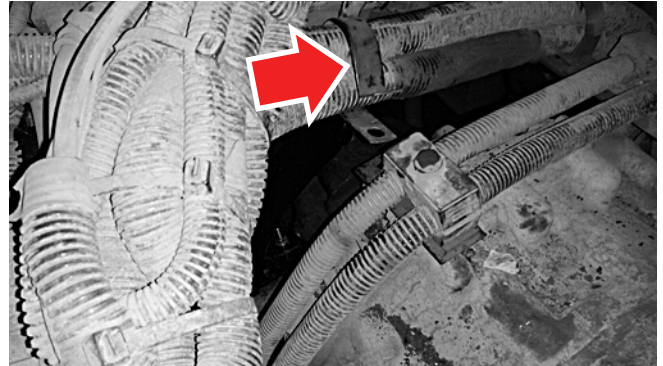

Figure 6, Air Line P-Clamp Disconnect
9. Disconnect the air line P-clamp and set aside for reinstallation (see Figure 6).